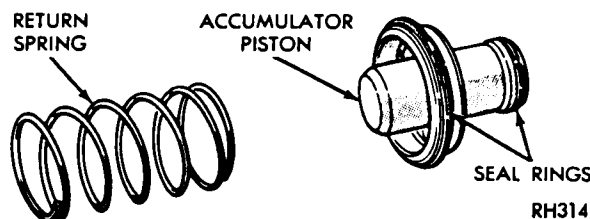

Fig. 50—Accumulator Piston and Spring
(1) Make sure combination back-up lamp/neutral start switch is not installed in transmission case.
(2) Place valve body manual lever in "low" position to move parking rod to rear position.
(3) Use screwdriver to push park sprag into engagement with parking gear, turning output shaft to verify engagement. This will allow "knob" on end of parking rod to move past the sprag as valve body is installed.
(4) Install accumulator piston in the transmission case (Fig. 50).
(5) Position accumulator spring between piston and valve body.